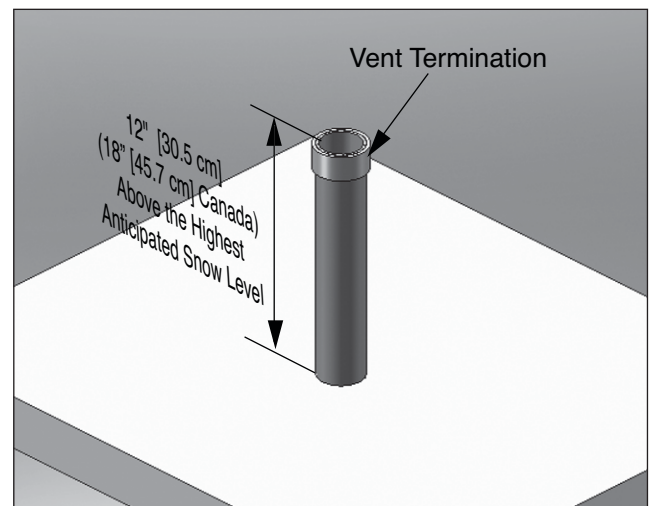

Fig. 14 - Category IV - Vertical Termination of Vent Pipe
3. The vent piping must terminate vertically with a coupling to accept the bird screen and must be located 12" [30.5 cm] (18" [45.7 cm] Canada) above the highest anticipated snow level as shown in *Fig. 14 below*.
3. Locate the vent pipe penetration to provide clearances as described in *Fig. 14 on page 19*.
3. The vent piping must terminate vertically with a coupling as shown in *Fig. 14 on page 19*.
Do not extend the vent pipe above the roof beyond the dimensions shown in *Fig. 14 on page 19*. Extended exposure of the vent pipe could cause condensate to freeze and block the vent pipe, resulting in substantial property damage, serious injury, or death.